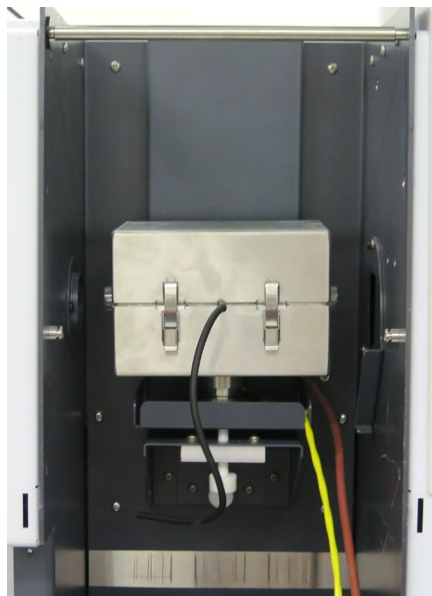

Figure 25. ETC 60 workhead installed (Flame instruments left and Zeeman instruments right)
2. With the Zeeman Workhead removed, hook the adapter fitted with the ETC 60 bracket on the top rear edge of the sample compartment. See Figure 25 on Page 24.